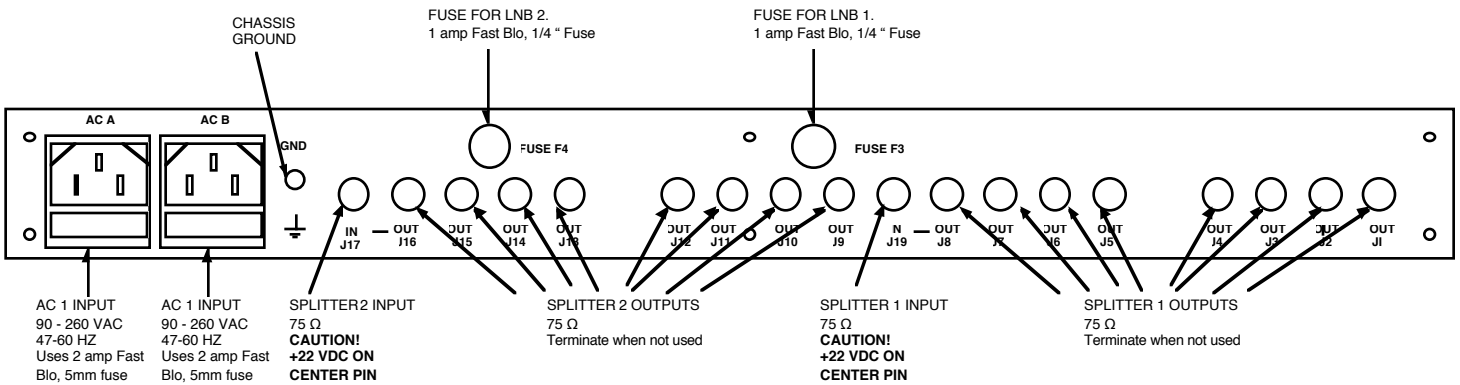

FIGURE 2.1 1584-29 REAR PANEL
2.1 Mechanical - The 1584-29 consists of one RF printed circuit board (PCB) housed in a 1 RU (1 3/4 inch high) by 12 inch deep chassis. Redundant, switching, +24 VDC power supplies with the DC output diode OR'd provide redundant power for the internal and external amplifiers and LEDs. Connectors are type F, female for the RF connections. The 1584-29 can be secured to a rack using the 4 holes on the front panel. Figure 2.1 shows how the 1584-29 is assembled. J27 and J25 connect DC Power to the fuses as shown and J30 and J29 connect the DC voltage from the power supplies to the PCB as shown.
The input and output connectors on the rear panel are shown in Figure 2.1.